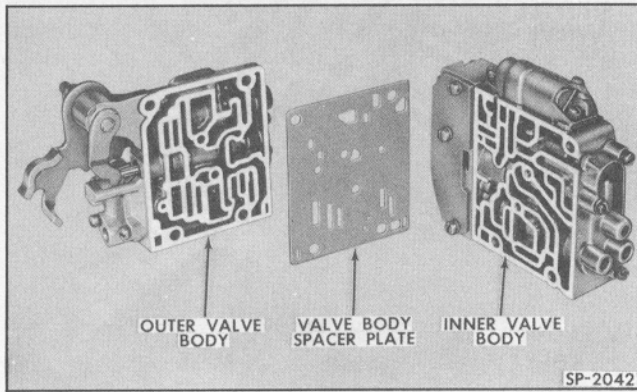

Fig. 31—Inner and Outer Valve Body and Spacer Plate
5. Separate the outer and inner valve bodies and remove the spacer plate (Fig. 31).